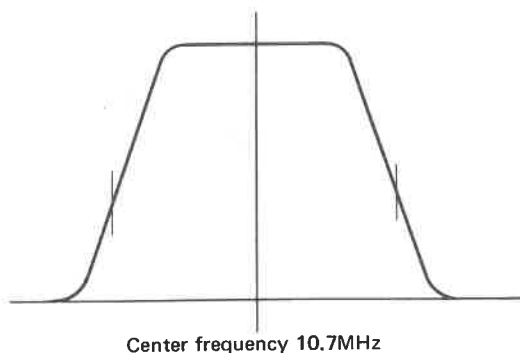

Fig. 5
- Align core of T1 for maximum gain and symmetry to obtain scope pattern as in Fig. 5.